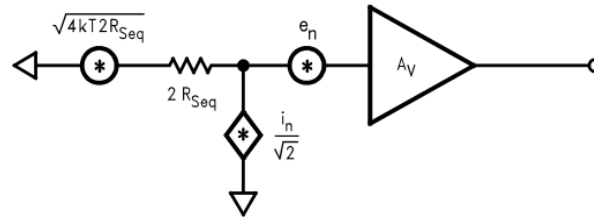
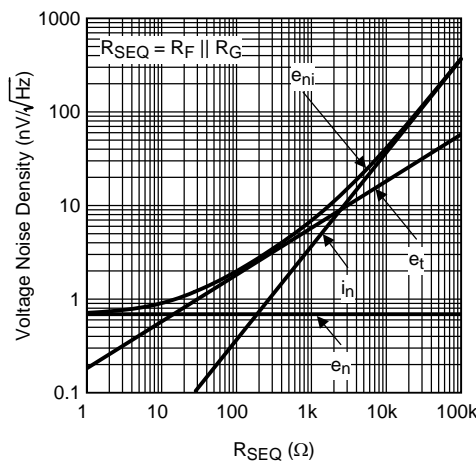

Figure 59. Noise Model with $R_f || R_g = R_{seq}$
Figure 60. Voltage Noise Density vs. Source Resistance
Figure 59 illustrates the equivalent noise model using this assumption. Figure 60 is a plot of e_{ni} against equivalent source resistance (R_{seq}) with all of the contributing voltage noise source of Equation 4. This plot gives the expected e_{ni} for a given (R_{seq}) which assumes $R_f || R_g = R_{seq}$ for bias current cancellation. The total equivalent output voltage noise (e_{no}) is $e_{ni} * A_V$.
As seen in Figure 60, e_{ni} is dominated by the intrinsic voltage noise (e_n) of the amplifier for equivalent source resistances below 15Ω . Between 15Ω and $2.5\text{ k}\Omega$, e_{ni} is dominated by the thermal noise ($e_t = \sqrt{4kT(2R_{seq})}$) of the equivalent source resistance R_{seq} ; incidentally, this is the range of R_{seq} values where the LMH6629 has the best (lowest) Noise Figure (NF) for the case where $R_{seq} = R_f || R_g$.
Above $2.5\text{ k}\Omega$, e_{ni} is dominated by the amplifier's current noise ($i_n = \sqrt{2} i_{nR_{seq}}$). When $R_{seq} = 190\Omega$ (i.e., $R_{seq} = e_n / \sqrt{2} i_n$), the contribution from voltage noise and current noise of LMH6629 is equal. For example, configured with a gain of $+10V/V$ giving a -3dB of 825 MHz and driven from $R_{seq} = R_f || R_g = 20\Omega$ ($e_{ni} = 1.07\text{ nV}/\sqrt{\text{Hz}}$ from Figure 60), the LMH6629 produces a total equivalent output noise voltage ($e_{ni} * 10\text{ V/V} * \sqrt{(1.57 * 825\text{ MHz})}$) of $385\text{ }\mu\text{V}_{\text{rms}}$.